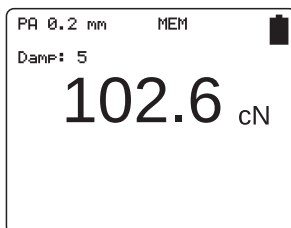

fig. 3.7b
- By pressing the  button the storage takes place (The display shows „MEM“, (fig. 3.7b) and the measurement is continued while by pressing the  button the measurement is continued without saving.